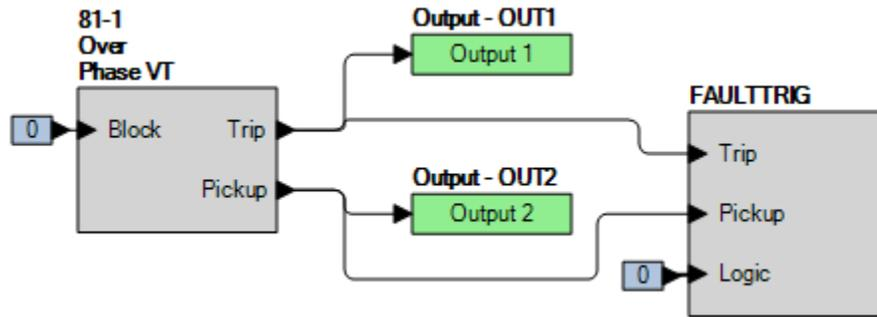

Figure 47-1. BESTlogicPlus Settings (Overfrequency)
Step 2: Use BESTCOMSPPlus to configure the BESTlogicPlus programmable logic shown in Figure 47-1.
- Step 4: Prepare to monitor the 81-1 function operation. Operation can be verified by monitoring OUT2 (see Figure 47-1).